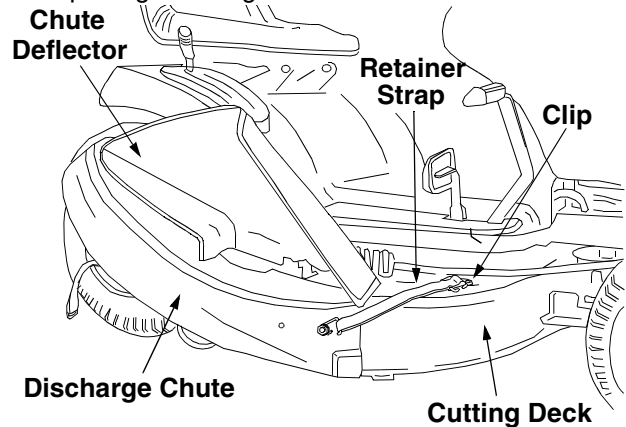

Figure 8
2. Place the top edge of the discharge chute in position over the chute opening on the deck, then push down on the discharge chute so the front edge fits snugly around the cutting deck opening. See Figure 8.
3. Fasten the discharge chute in position by hooking the retainer strap over the retainer clip on the top\* of the deck. See Figure 8.